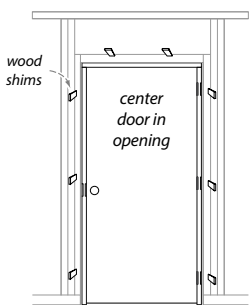

Figure 4
- b. Shim frame in opening centering as close as possible. Wood shim placement should provide plum and square alignment with even reveal between door and jambs (figure 4).